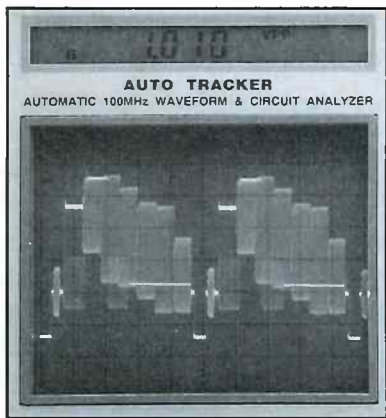

Fig. 4: Set the timebase control to TVV to automatically view two vertical fields of video information, or to TVH to view two horizontal lines as shown here.
- "TV" Trigger Mode** - When viewing composite video, you may wish to view the video at either the horizontal or vertical rate. That's why we've included special video presets to set up these waveforms automatically. Select TVV to see two fields or TVH to view two horizontal lines, as shown in Fig. 4.